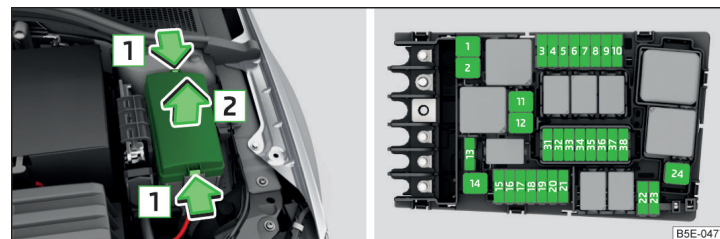

Fig. 234 Removing the fuse box cover/fuses
- Press together the interlocks of the cover simultaneously in the direction of the arrow **1** » Fig. 234.